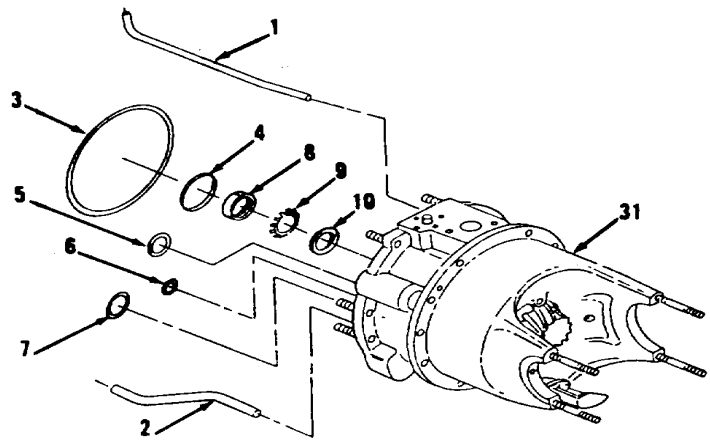
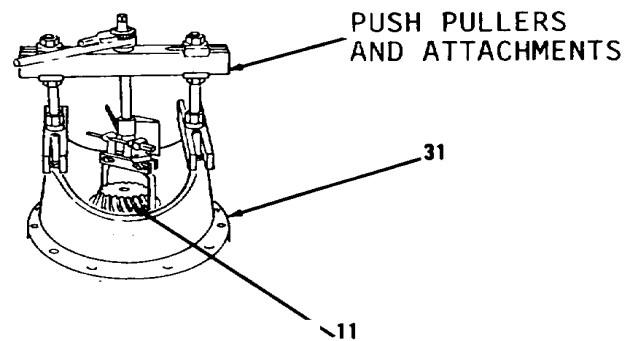

Figure 14-137.
Figure 14-138.
2. Remove tubes (1 and 2, Figure 14-137).
3. Remove and discard preformed packings (3 thru 7) from carrier (31).
4. Bend tabs on lock (9) away from nut (8).
5. Remove nut (8), lock (9) and washer (10).
6. Using push pullers and attachments, remove shaft (11) from carrier (31, Figure 14-138).